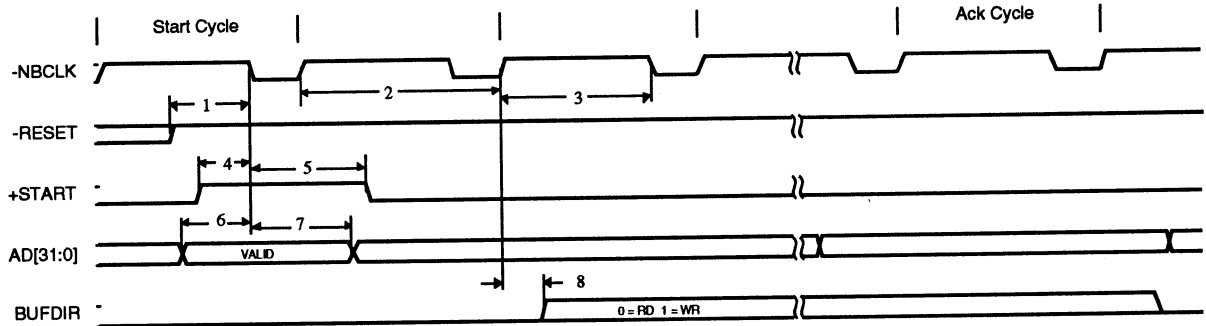

Figure 7-1. Primary Nubus Timing
Table 7-3. Parameters for Figure 7-1
6. See Figures 7-1, 7-2, and 7-3 for minimum "NB Signal" setup and hold times required for the Earth chip to function properly.